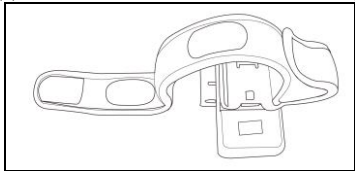

Fig.3-4
- (1). Thread one terminal of the band through one hole of the bracket, make sure the even side faces the oximeter and hook-and-loop fastener back to it.
- (2). One the already-threaded terminal of the band, press the hook side onto the loop side to secure them, refer to Fig.3-4.